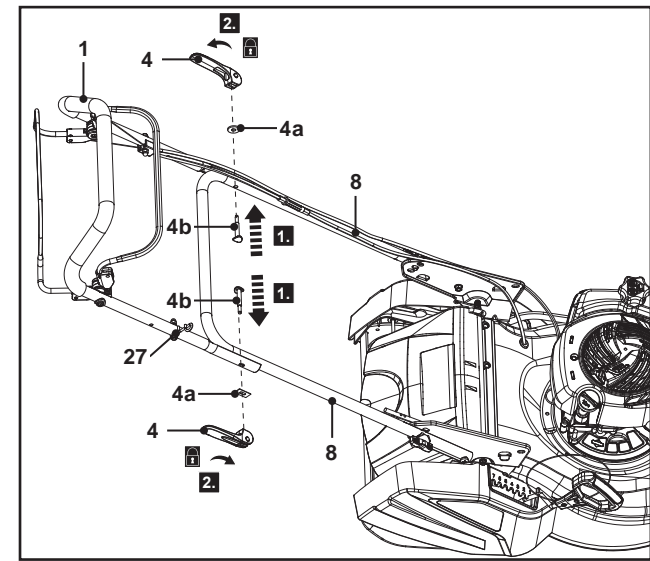

Fig. 3
1. Align the mounting holes of the upper handle bar (1) and the lower handle bar (8). Ensure that the upper handle bar (1) with the brake lever (3) facing upwards.
2. Pass the mounting bolt (4b) through the mounting holes to the end (Fig. 3, step 1), then attach the washer (4a) and the clamp lever (4).
3. Secure the upper handle bar (1) with the lower handle bar (8) by folding up the clamp levers (4) towards the handle bars (1, 8). If the clamp lever (4) cannot be folded, loosen it and fold again. If it is too loose, tighten it by turning the clamp lever (4) clockwise (Fig. 3, step 2).
4. Make sure that the pre-assembled hook for recoil start handle (27) rest on your right-hand side (when viewed from operator's position).